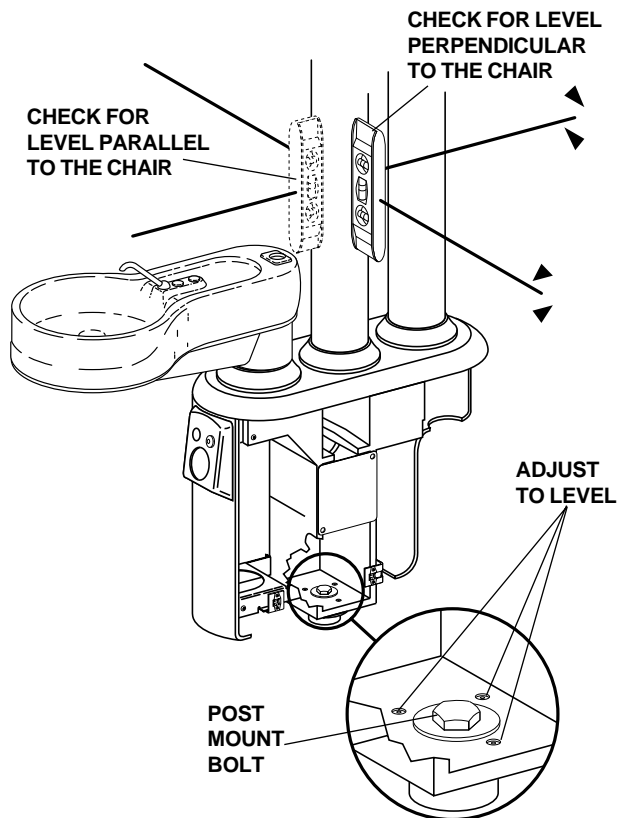

FIGURE 14
1. Place a magnetic leveling device on the light post (see Figure 14). Check for level parallel to the chair first, then for level perpendicular to the chair.
2. If the post box is not level, loosen the post mount bolt (see Figure 14) and adjust for level parallel to the chair first, then for level perpendicular to the chair.